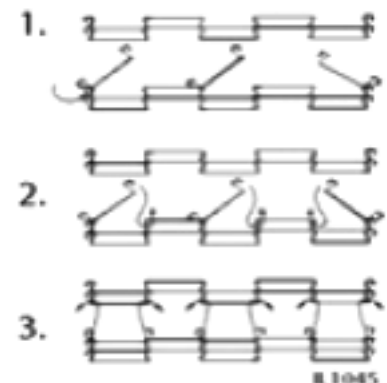

Fig 2. Master Links
2. Perform daily and weekly cleaning procedures. Follow the step 1 in Fig 2, to remove all of the master links. To remove, unhook each end of one link and bring the two ends together, and un-thread. Once detached, re-hook onto itself so not to get damaged.
8. Reinstall the previously removed master links as shown in step 2 & 3 in Fig.2. Unhook the last link of the conveyor, farthest away from you, and re-thread through the other end, and reconnect back onto itself.